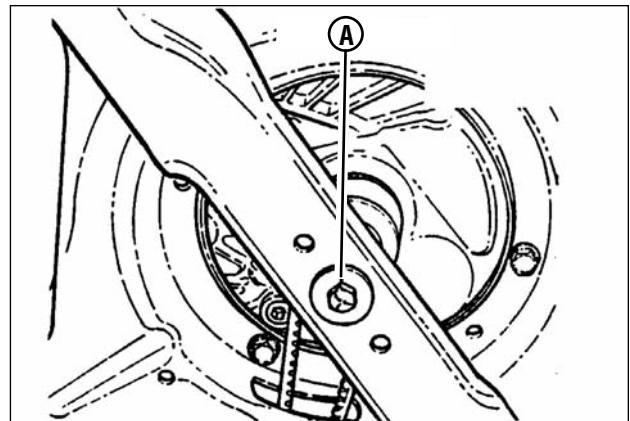

Figure 14: Tightening the blade cap screw
2. Tilt the mower up on its rear wheels for access to the blade cap screw (A, Figure 14). Do not tilt the mower with the spark plug or carburetor down.